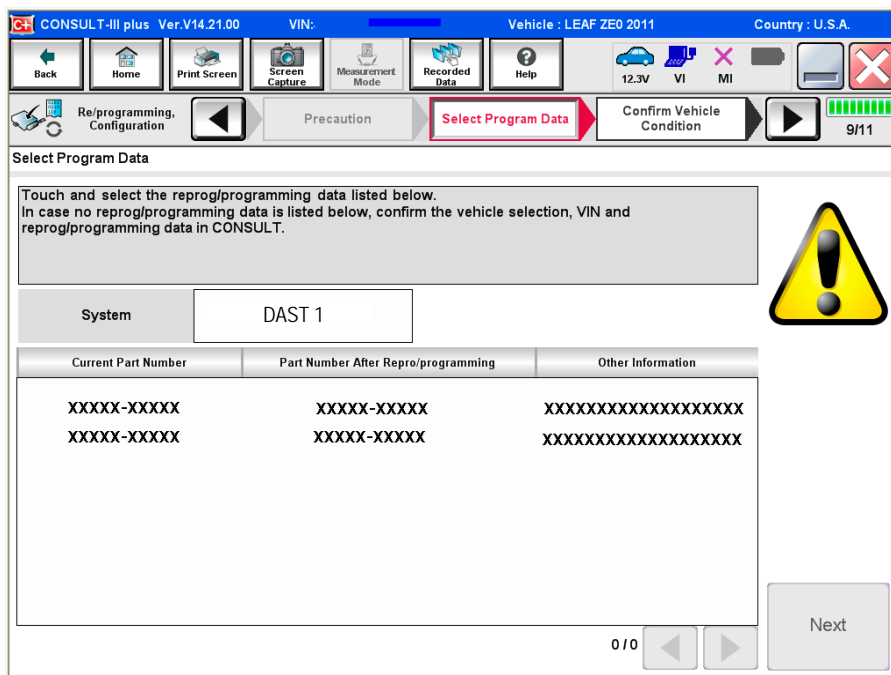

Figure 10
- If more then one P/N is available, the screen in Figure 10 will display.